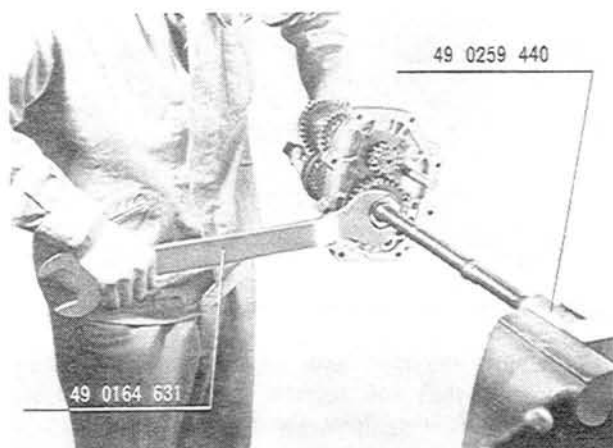

Fig. 7-11 Loosening of lock nut
20. Straighten the tub of the lockwasher, hold the main shaft with the **holder** (49 0259 440) as shown in Fig. 7-11 and loosen the lock nut by using the **spanner** (49 0164 631). Remove the reverse gear from the main shaft.